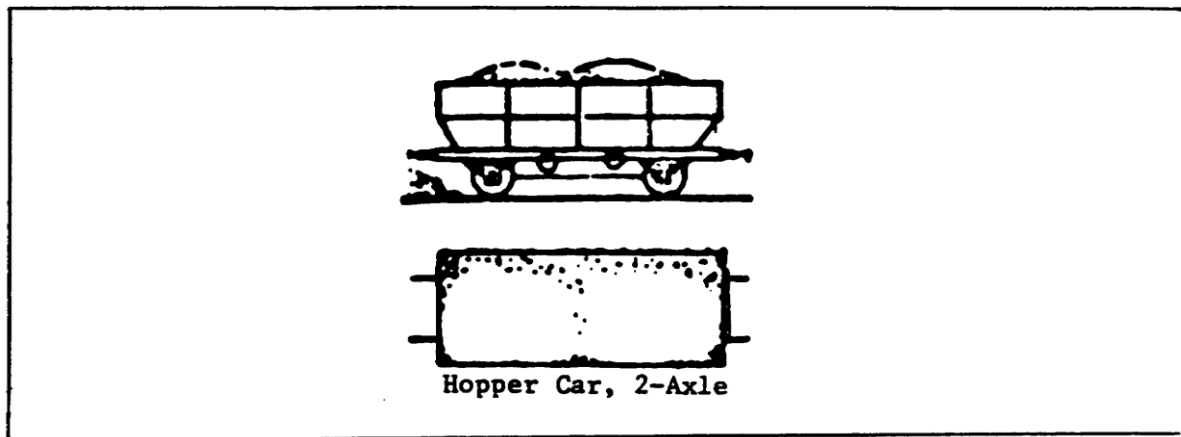

Figure 1-39. Hopper Cars.
c. Hopper cars are open-top, high-sided cars with sloping bottoms. There are doors at the bottom or side for discharging the contents of the car (Figure 1-39).
6.	B. The average capacity for this yard is 660. Using the formula $\text{Capacity} = \frac{\text{Average yard length (1,500ft)} \times \text{number of tracks (22)}}{\text{Average car length (50ft)}}$ (pages 10/11, para 4c).
7.	A. This is a hopper car (apparently empty)(page 28, para 5c/fig 1-39).